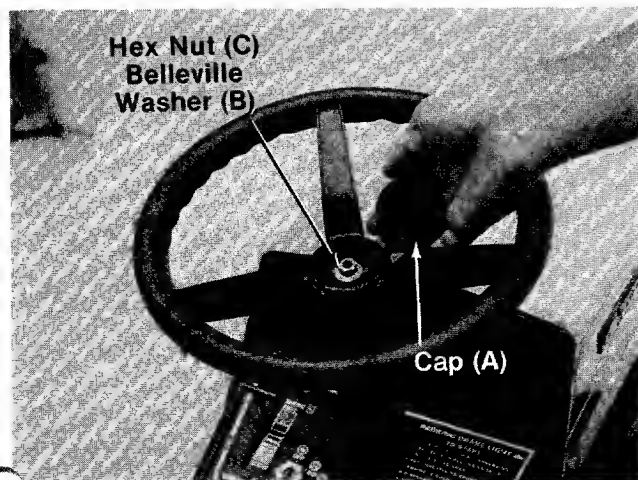

FIGURE 14.
4. Secure with belleville washer (B) (cupped side against the steering wheel) and hex nut (C). See figure 14.
5. Press the steering wheel cap (A) on the steering wheel by hand.